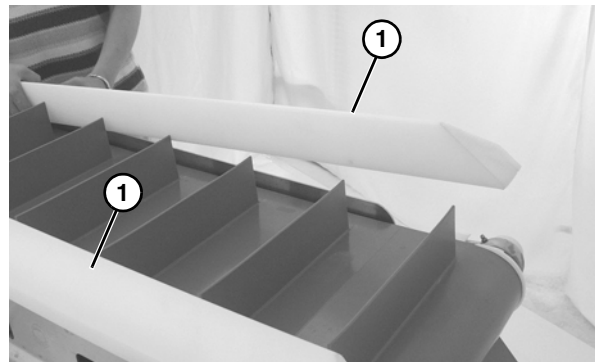

Figure 45
2. Remove the guides (Figure 45, item 1).